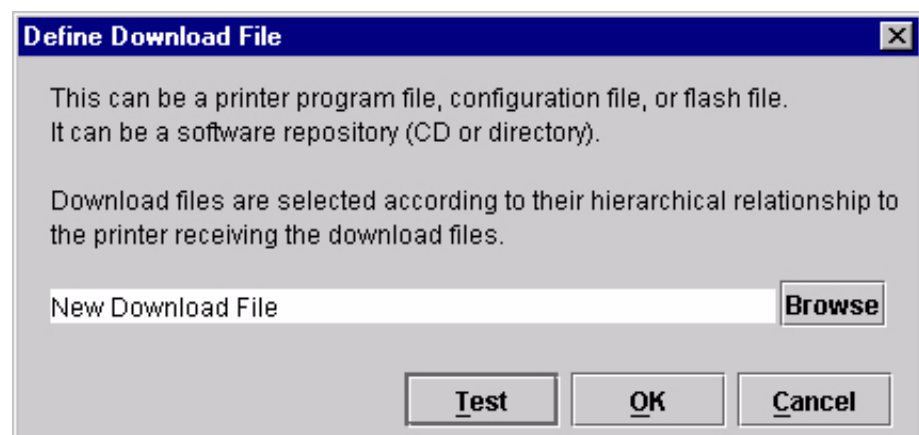

Figure 59. Define Download File
1. Double-click **D New Download File**. The Define Download File dialog box opens. See Figure 59.